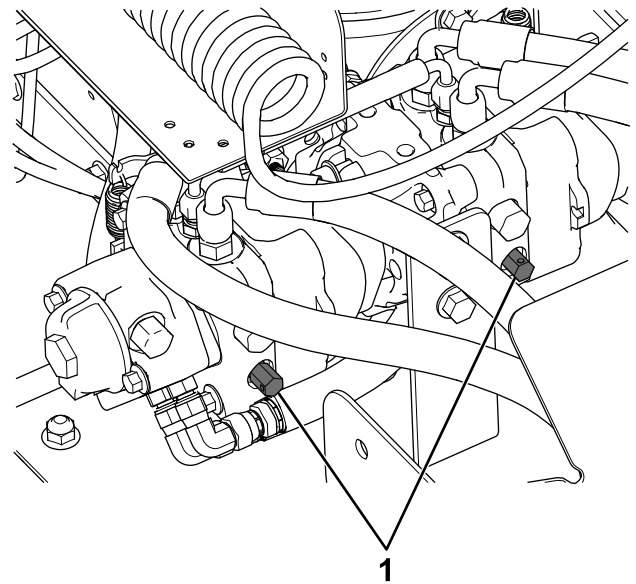

Figure 25
1. Open the bypass valves on the hydraulic pump by turning them counterclockwise 1-1/2 turns (Figure 25).